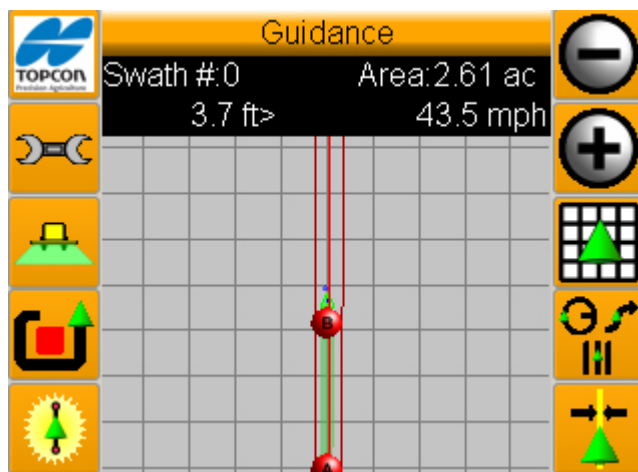

Figure 10-16. Set the second point of the AB line
11. A straight line will now appear (figure 10-16).